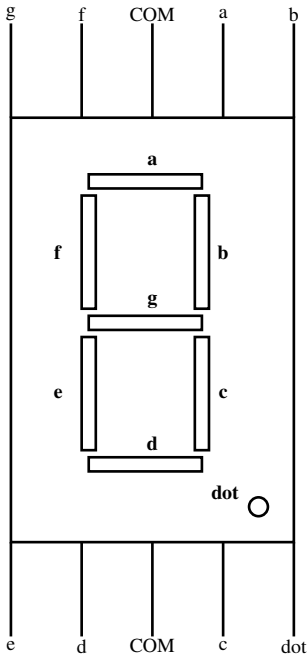

Fig. 2
1. Plug the LCD in Fig. 2 to the breadboard.